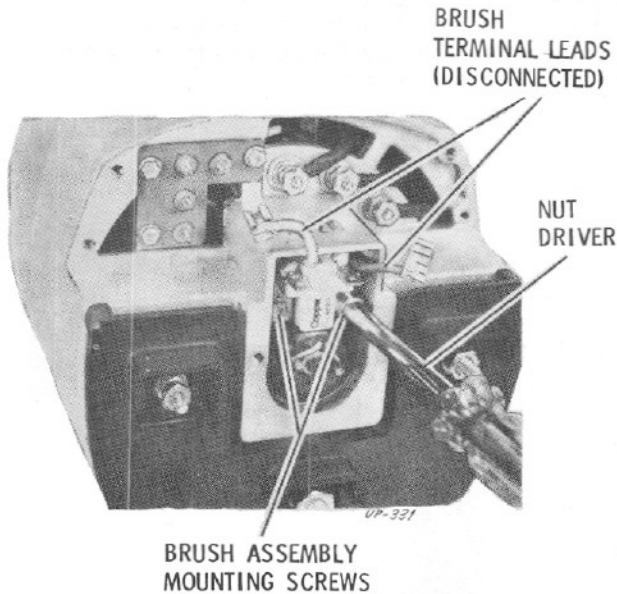

FIG. 20 BRUSH ASSEMBLY REMOVAL
3. Remove two brush assembly mounting screws, and then brush assembly, see Figure 20.